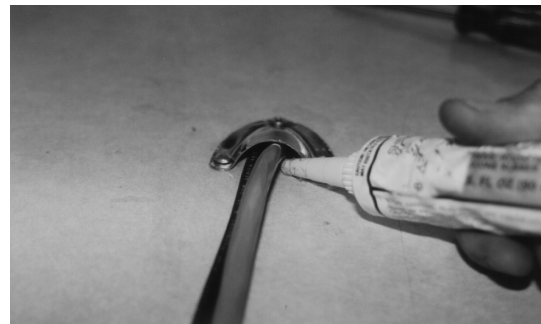

Figure 4-10
Step 5 Once the cover is fastened down, fill the cavity where the cable goes in completely with silicone sealant. (See Figure 4-10.)